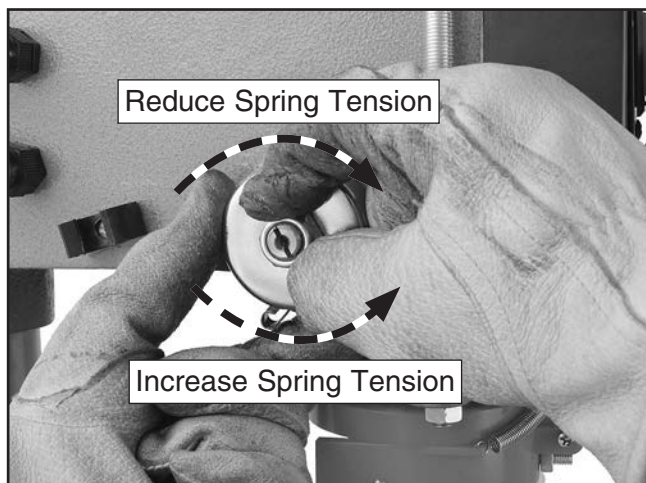

Figure 45. Loosening cover and jam nut.
3. While holding the spring lock cover against the side of the headstock so the cover stays splined with the locking lug, as shown in **Figure 45**, loosen the jam nut and loosen the cover nut approximately $\frac{1}{4}$ " each.
6. Rotate the cover counterclockwise to increase spring tension, or let the cover slowly unwind in the clockwise direction to reduce spring tension (see **Figure 45**).